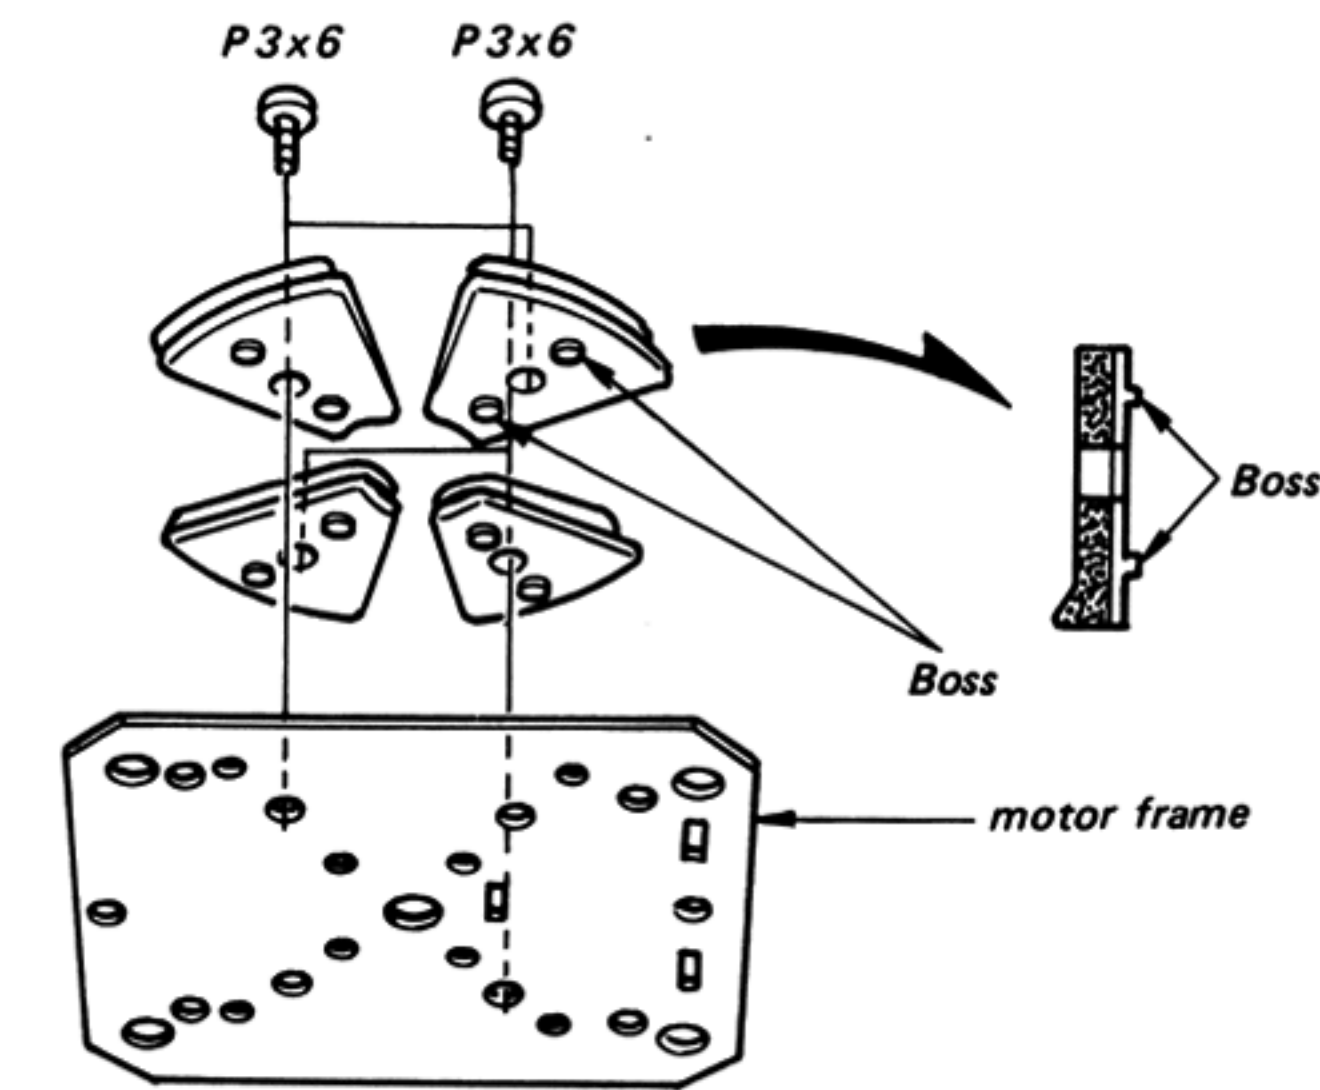

Fig. 5-3
- the frame as illustrated in Fig. 5-3.